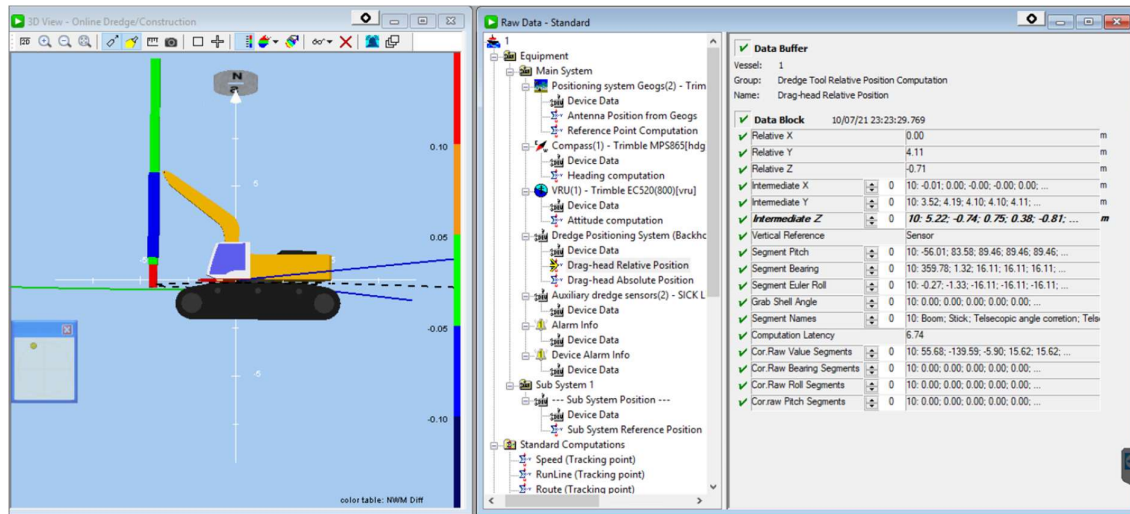

Figure 19 – XYZ relative offsets to boom pin (A)
We won't use them yet, since first, we need to place the telescopic segments at the boom-stick pin. For that, we will use the *Raw Data View* or *Helpdesk View* once again (figure 19). We will look at the *Intermediate XYZ* values, which are the offsets, on each axis, for each segment taking the boom pin (A) as reference. For instance, looking at the *Intermediate Z* in the figure 19, the boom-stick pin is 5.22m above the A pin; the second value, given by the EC520 API is not used; then, the third value says that the end of the first telescopic segment (rigid segment attached to the boom) is only 0.75m above the pin A; and so on.